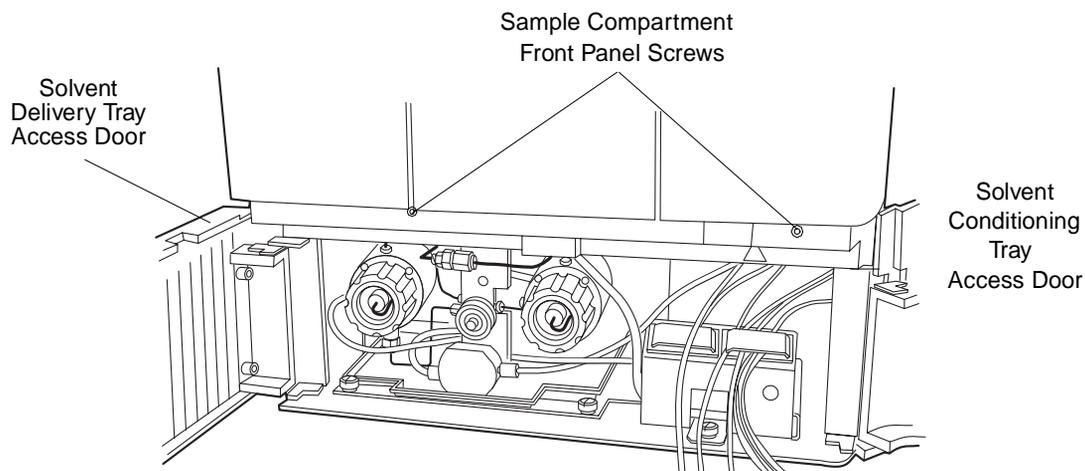

Figure 7-17 Accessing the Sample Compartment
3. Open the solvent delivery tray and solvent conditioning tray access doors (Figure 7-17).
4. Use the Allen wrench to loosen the two sample compartment front panel screws (Figure 7-17).